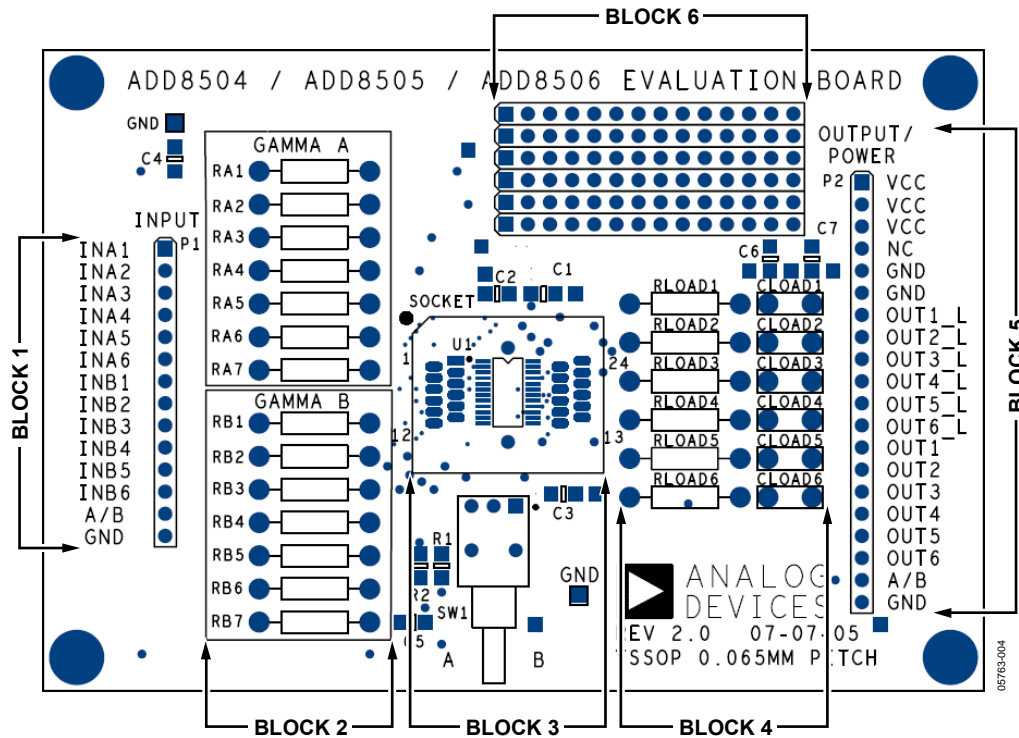

Figure 4. Evaluation Board Layout
1. Use existing, or modify, Gamma Resistor RA1 to Gamma Resistor RA7, and Gamma Resistor RB1 to Gamma Resistor RB7 in Block 2 (see Figure 4).
2. Install the ADD8504/ADD8505/ADD8506 in the socket in Block 3, see Figure 4. Read the Part Placement in Socket section for proper part placement and refer to Figure 4 for the ADD8504/ADD8505/ADD8506 evaluation board layout.
3. Connect a +5 V power supply to at least one of the three pins labeled VCC, and connect ground to at least one of the three pins labeled GND in Block 5 (see Figure 4).
If the above list is complete, the user can probe the input and output voltages. To switch between the two gamma resistor strings, connect a switching signal to Pin A/B or toggle the hardware switch (SW1) between Position A and Position B (refer to Figure 4).
The ADD8504/ADD8505/ADD8506 evaluation board is pre-configured with one 20 kΩ resistor and thirteen 10 kΩ resistors filling the two gamma resistor strings, for a total of 14 resistors labeled RA1 to RA7 and RB1 to RB7 as shown in Figure 4. The 20 kΩ resistor is labeled RA1 and serves to differentiate the two resistor strings to make the outputs change significantly; output voltages are listed in Table 1.
Sockets are provided on the evaluation board for a series resistance and capacitive load to ground for each of the six gamma buffer outputs. The sockets are labeled RLOAD1 to RLOAD6 and CLOAD1 to CLOAD6; they are located in Block 4 on the evaluation board (see Figure 4). These loads are optional and are for customer evaluation purposes only. If no load is desired, neither resistor nor capacitor should be added.